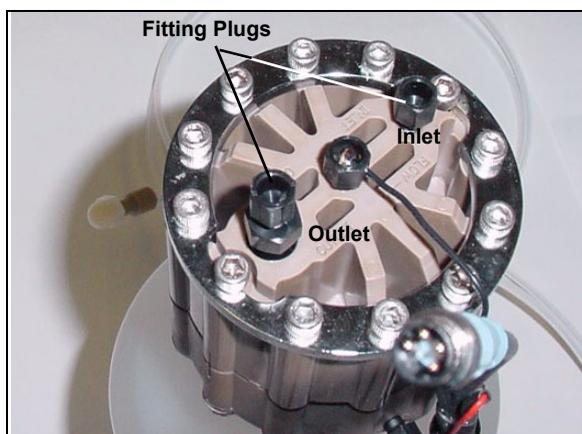

Figure 5-33. EGC Fitting Plugs
12. Remove the plugs from the EGC **INLET** and **OUTLET** fittings (see Figure 5-33).